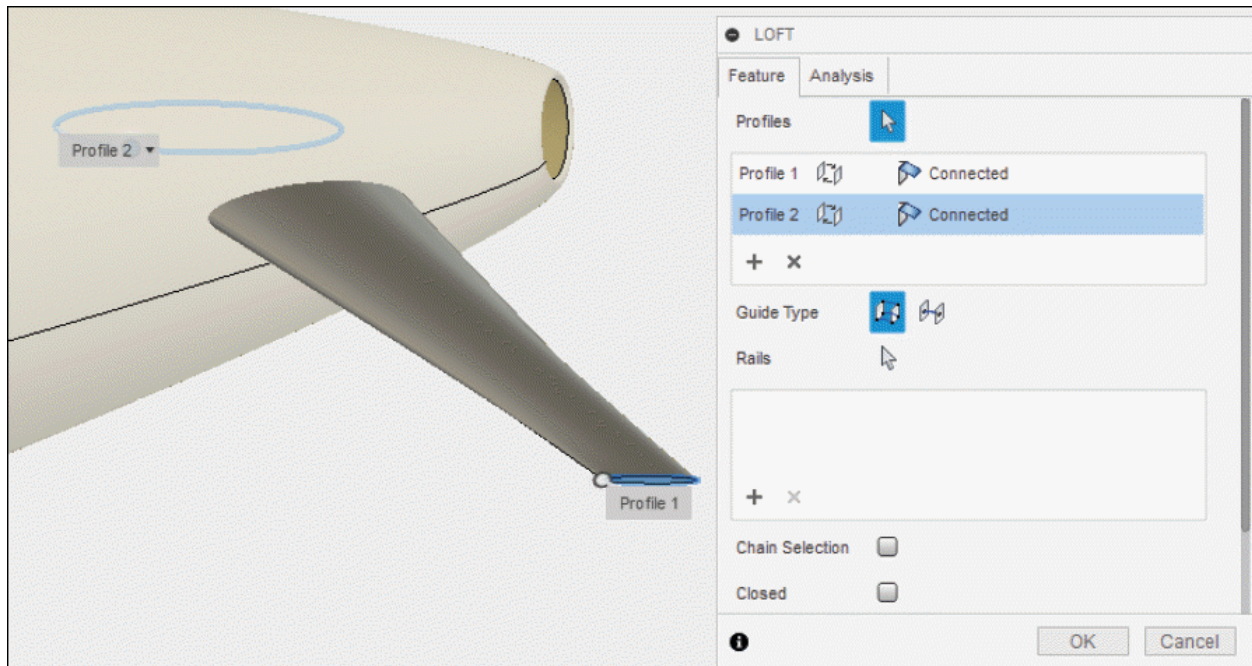

Figure-54. Applying loft tool for rear wing
- You need to select two recently created sketch in **Profiles** section of **LOFT** dialog box; refer to Figure-54.